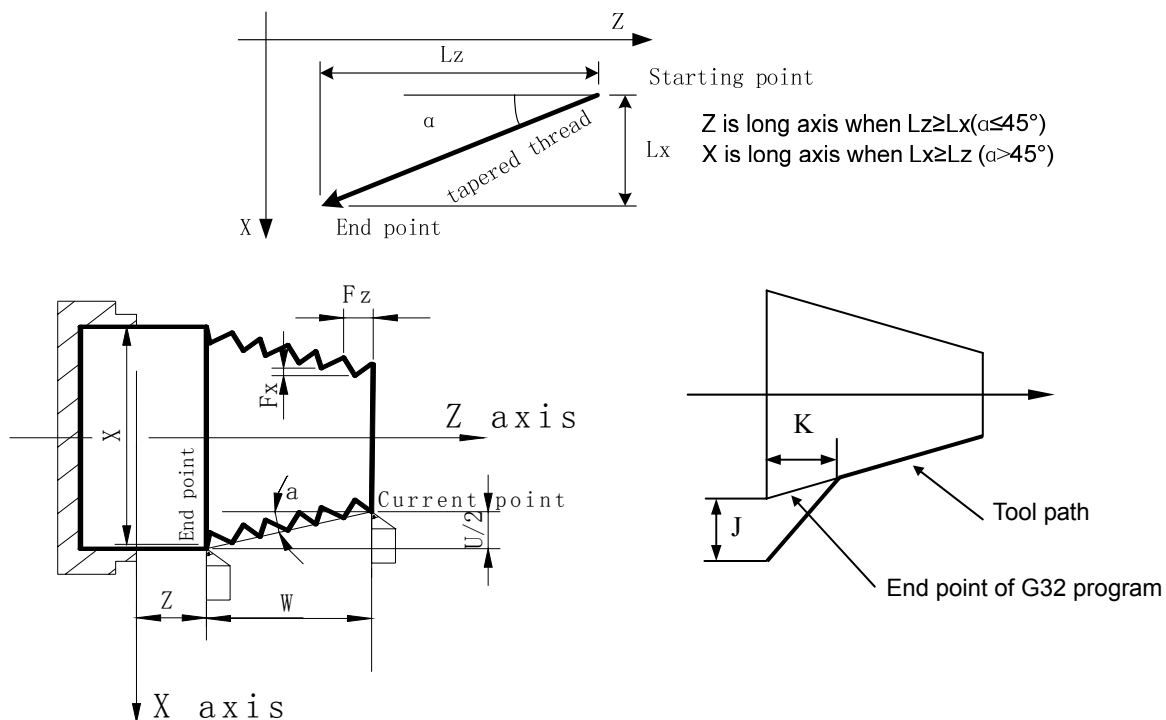

Fig. 3-82 G32 path
**Command function:** The path of tool traversing is a straight line from starting point to end point as Fig.3-82; the longer moving distance from starting point to end point(X in radius value) is called as the long axis and another is called as the short axis. In course of motion, the long axis traverses one lead when the spindle rotates one revolution, and the short axis and the long axis execute the linear interpolation. Form one spiral grooving with variable lead on the surface of workpiece to realize thread cutting with constant lead. Metric pitch and inch pitch are defined respectively by F, I. Metric or inch straight, taper, end face thread and continuous multi-section thread can by machined in G32.
Difference between long axis and short axis is shown in Fig. 3-82.